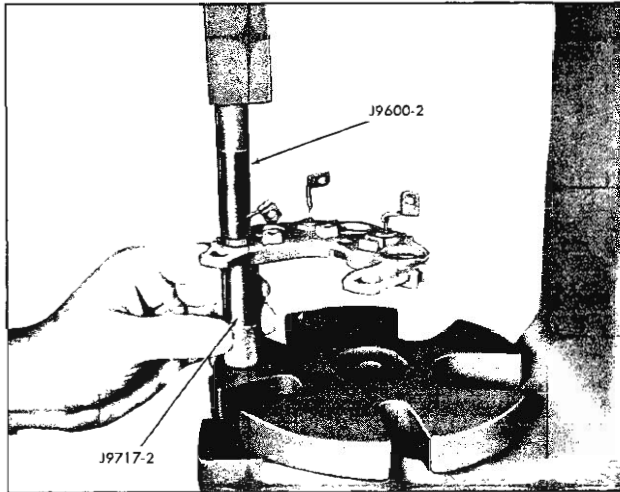

Fig. 28—Installing Diodes with Press Tools
3. Support outside end of frame around diode hole on a flat, smooth surface and press diode into position with J-9600-2 and an arbor press. Make sure diode is square with end frame and started straight (fig. 28).